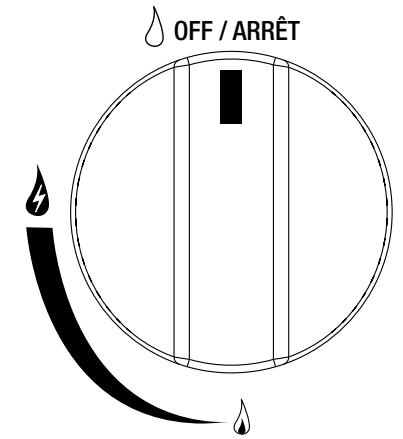

Figure 3
2. Make sure the control knobs is in the "OFF" position (Figure 3).
1. Make sure the control knob is in the "OFF" position (Figure 3).
2. Make sure control knobs are in the "OFF" position (Figure 3).
3. The control knobs must be in the "OFF" position (Figure 3).